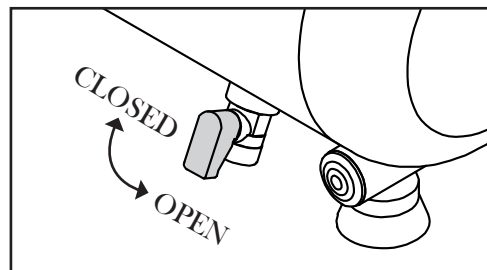
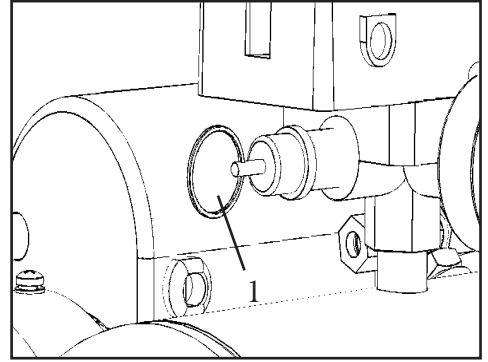

Fig. 2
Fig. 4
## CLOSING & OPENING THE TANK DRAIN VALVE (Fig. 2)
2. Reduce pressure in the tank through the outlet hose or by pulling the pressure relief valve ring (Fig. 4 - 1). This is an emergency overpressure relief. When pulled open, it will lower the pressure down to 75 PSI and close automatically. To lower the pressure below 75 PSI or to drain the tank, pull on the ring and hold it open.
3. Drain water from the tank by opening the tank drain valve (counter-clockwise) on the bottom of the tank (Fig. 2).
1. Pull the pressure release valve ring to open the valve after each operation (Fig. 4).
2. Open the tank drain valve (Fig. 2) underside the compressor to drain the tank daily after each operation. To minimize moisture inside of the unit, tilt the compressor during drainage so that the drain valve is aimed directly towards the ground. This will allow all moisture to drain completely and prevent the tank from corroding.
Before storing the compressor, drain the tank by opening tank drain valve on the underside of the compressor (Fig. 2). This will drain the compressor to prevent moisture from collecting and rusting the inside of the tank. Pull on and hold open the pressure release valve ring (Fig. 4) located next to the tank pressure gauge to relieve the remaining pressure inside the tank. Do not store the air compressor in cold climates, as cold climates may create problems with the motor while possibly freezing water condensation.
| Low PSI pressure and/or compressor does not stop.   | <ol style="list-style-type: none"> <li>1. Tank drain valve is open.</li> <li>2. Leaks in the unit.</li> <li>3. Using too much air.</li> <li>4. Air intake is obstructed.</li> <li>5. Compressor is too small.</li> <li>6. Blown gaskets/seals or leaking valves/piston rings.</li> </ol> | <ol style="list-style-type: none"> <li>1. Close the drain valve (see Fig. 2 on page 8).</li> <li>2. Check the unit for leaks (see “Testing for Leaks” on page 10).</li> <li>3. Use less air.</li> <li>4. Make sure the unit is away from the wall and that the air inlets are not obstructed.</li> <li>5. Check the requirements of the pneumatic tool. Make sure the specifications of this compressor meet the requirements.</li> <li>6. Replace necessary parts.</li> </ol> |